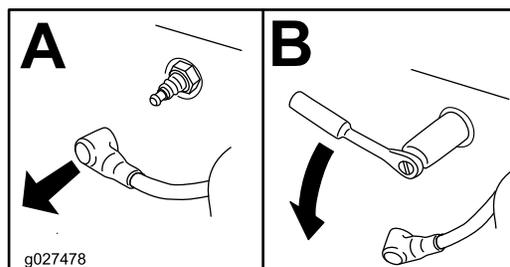

Figure 27
4. Remove the spark plug(s) as shown in Figure 27.